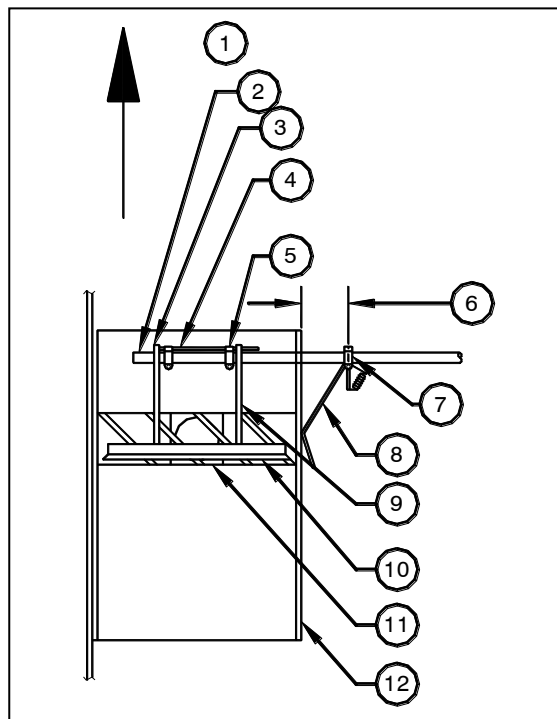

Figure 2.16b
7. Adjust the skimmer arm for level, and elevation if necessary, using the U-bolt. Adjust the skimmer arm alignment, as required, to align the scum skimmer parallel to the scum box discharge leading drop edge, as shown in Figure 2.16b. Then secure the skimmer arm to the vertical support.